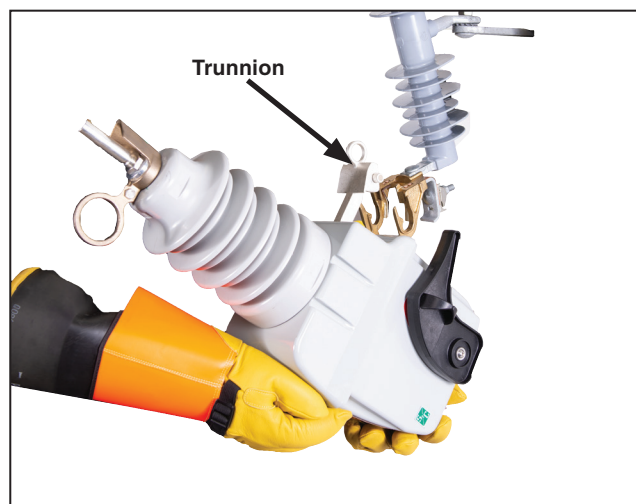
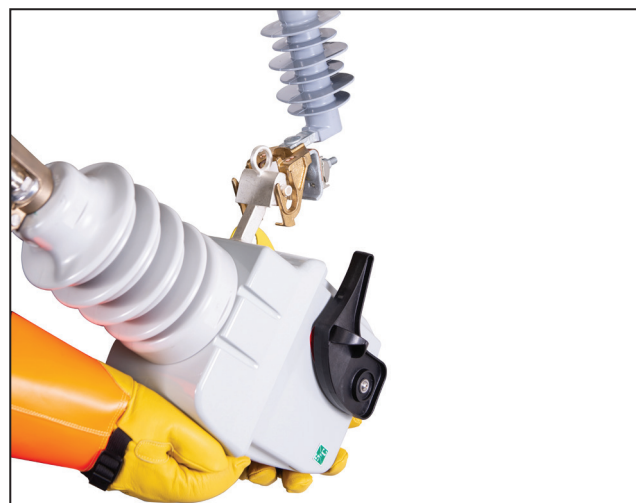

Figure 5. Bringing the trunnion close to the hinge of the cutout mounting.
Figure 6. Guiding the trunnion into the hinge of the cutout mounting using gloved hands.
STEP 3. *Installation Using Insulated Gloves:* With the OPEN/CLOSE lever in the **Open** position, insert the VacuFuse Self-Resetting Interrupter into a 125-kV BIL- or a 150-kV BIL-rated mounting with gloved hands, as shown in Figures 5 and 6. Guide the trunnion into the hinge of the cutout mounting, as shown in Figure 6.